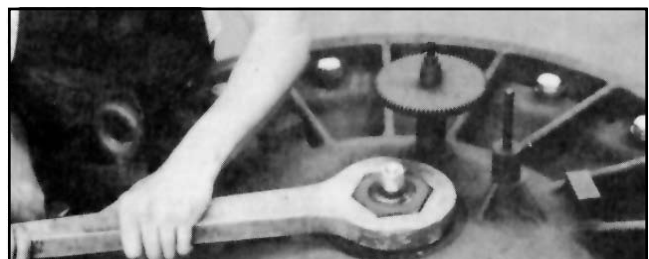

Figure 13
5. Loosen and remove upper shaft nut from shaft, Figure 13.